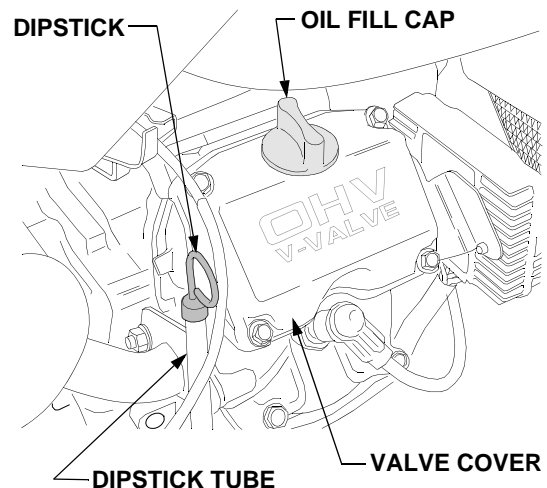

Figure 51
- Check the oil level only while the engine is stopped and the tractor is level. Clean the area around the oil level dipstick to prevent debris from entering the crankcase. See Figure 51.
- To check the oil level, withdraw the dipstick and wipe it clean; then insert the dipstick all the way into the tube before withdrawing it for a true reading. See Figure 51.
- Clean the area around the oil filler cap to prevent debris from entering the crankcase. Refer to Figure 51.
- Remove the dipstick and oil fill cap from the engine. Refer to Figure 51.